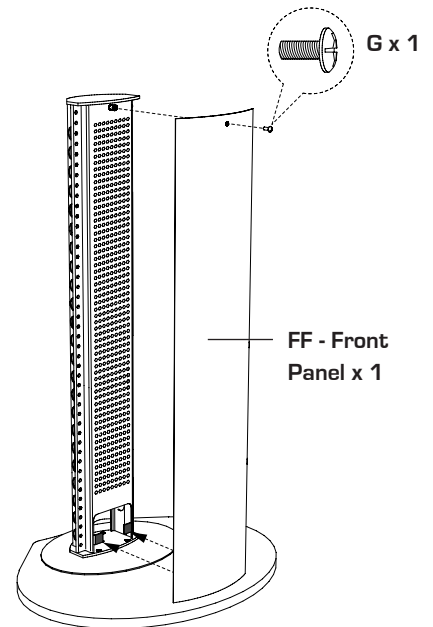

Figure 2
Install **Front Cover Panel (F)** to front of spine using **5/8" Long Phillips Head Screw (G)** as shown (Figure 2). Bottom end of cover panel is attached with hook and loop pads. **Note:** The front cover panel has a flatter curve. Back panel has a notch at the bottom.